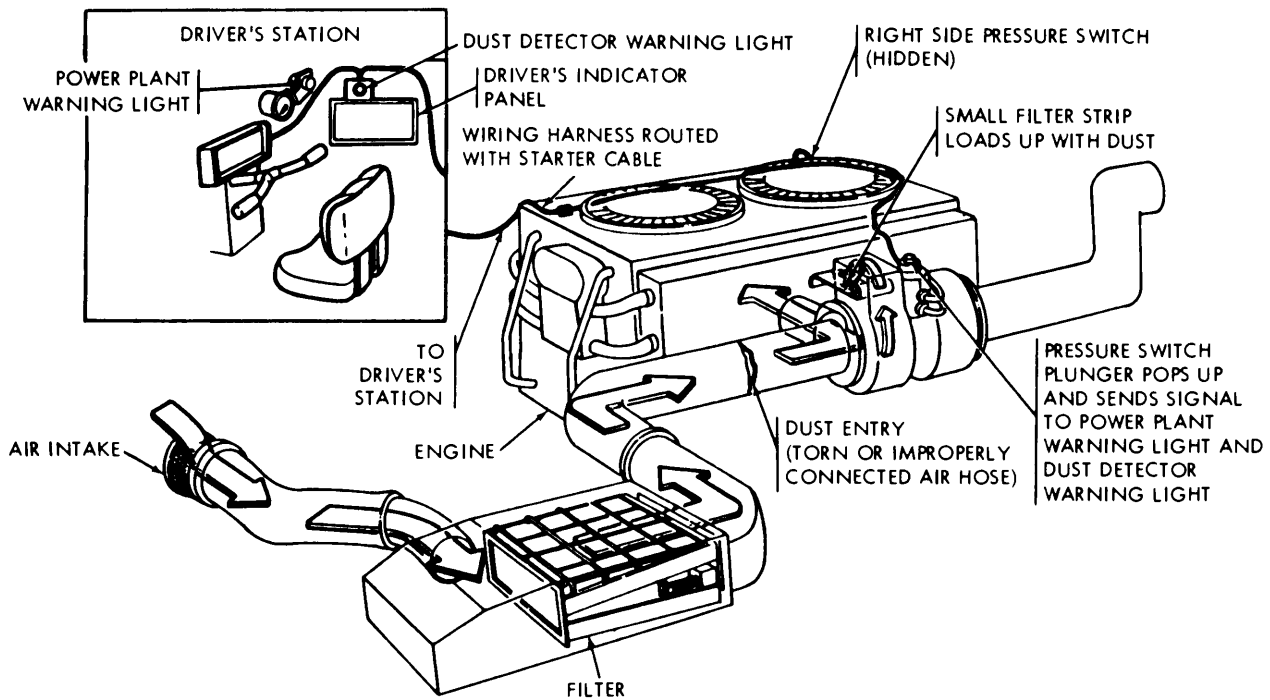

Figure 5-2. Dust detector system.
- d. *Dust Detector.* The dust detector system (fig. 5-2) uses engine air induction manifold pressure to circulate air through filter strips in the dust detectors mounted in the turbo supercharger compressor housing. When the filter strip(s) become clogged, the resultant change in pressure actuates a pressure switch which illuminates the power plant warning light and the dust detector warning light in the driver's compartment. A dust detector warning light ON indicates a restricted falter strip in either or both engine bank dust detectors.